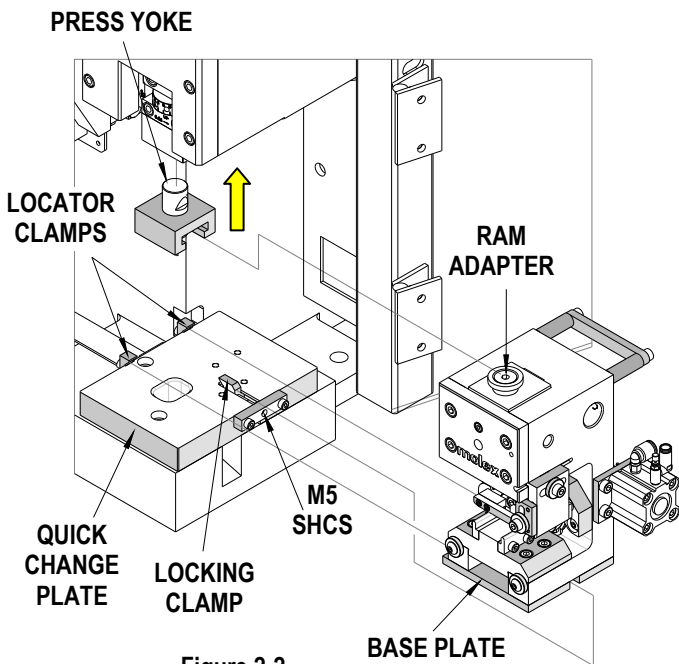

Figure 2-2
- b. Rotate the adjustment dial to the right to raise shut height or to the left to decrease. Dial indicator lines represent increments of .05mm (.002"). See Figure 2-2.
7. Slide the crimp module onto the quick-change mounting plate until the two notches on the left side engage against the stops, and at the same time, guide the ram adapter into the press yoke. See Figure 2-2.